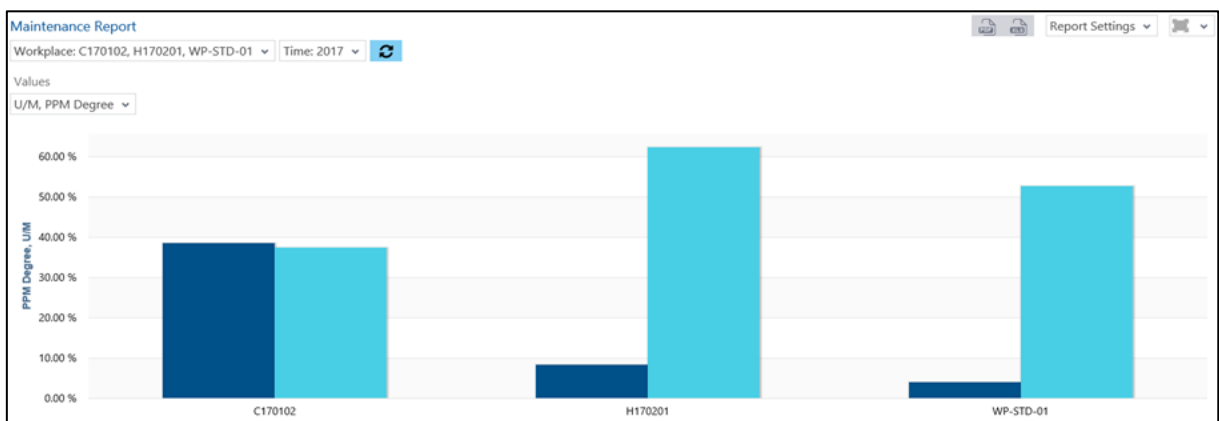

Fig. 161: Maintenance report as a column chart
- Maintenance report as a column chart (fig. 161):